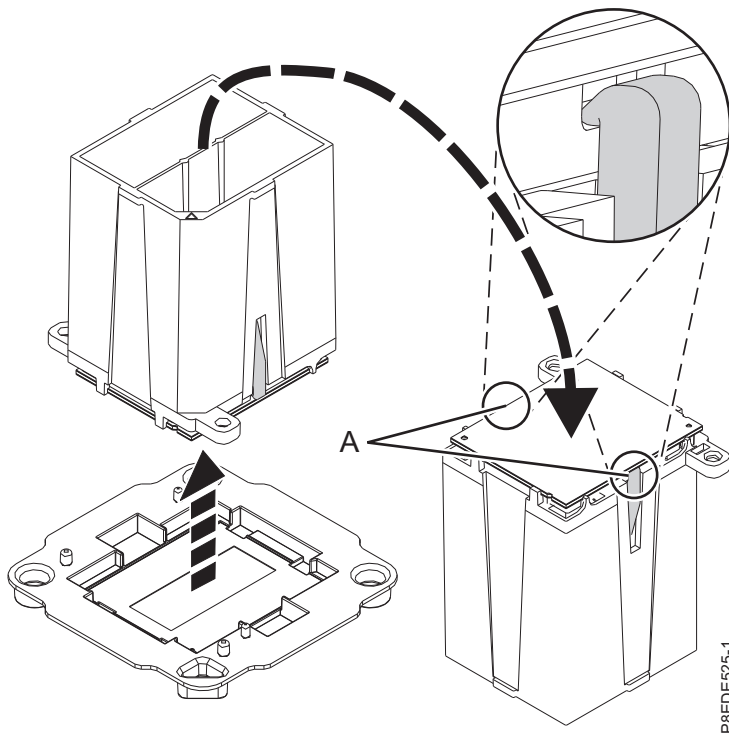

Figure 12. Preparing for system processor module installation
- b. Ensure that both jaws (**A**) are firmly grabbing the system processor module, as shown in Figure 12.